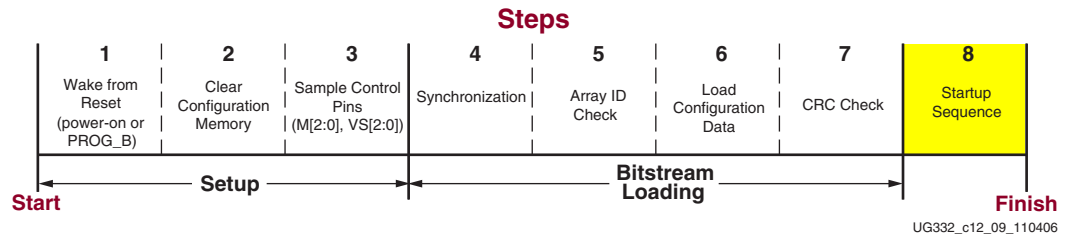

Figure 12-11: Startup Sequence
3. Hold the **DONE** pin Low, which prevents the FPGA from completing the Startup Sequence, shown as Step 8 in Figure 12-11, page 238.